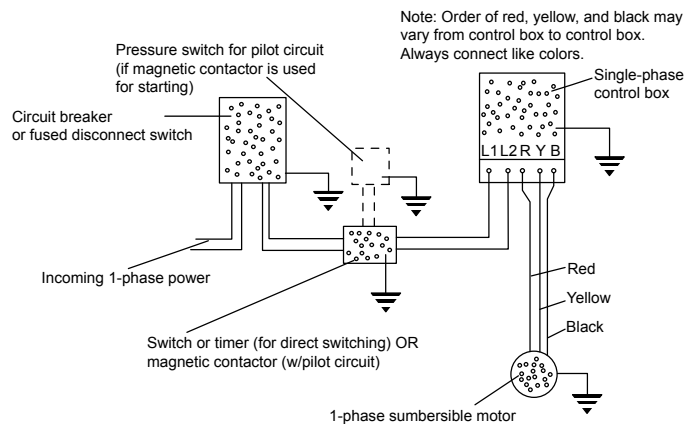

FIGURE 3
8. A three-wire, 1-phase pump requires a motor control box incorporating overload relays. Figure 3 shows a typical wiring diagram for a three-wire, single-phase installation. Note that a magnetic contactor must be used if the pressure switch electrical rating is not sufficient to handle the submersible motor electrical rating. The pressure switch would then be incorporated into a pilot circuit to control the magnetic contactor. Make the connections at the control box in accordance with the wiring diagram in the control box to avoid damage to the motor.